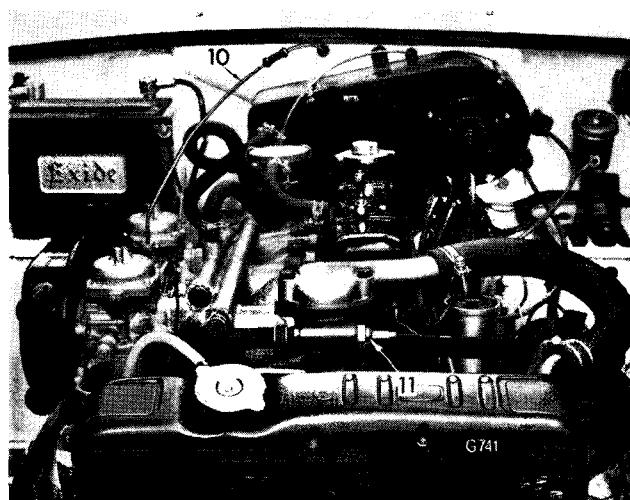

Fig. 82. Front view of engine
Disconnect the starter motor lead and the earth lead from the left-hand side of the front engine bearer plate. Referring to Fig. 82, release the choke control cable (10) and temperature transmitter electrical connection (!1).